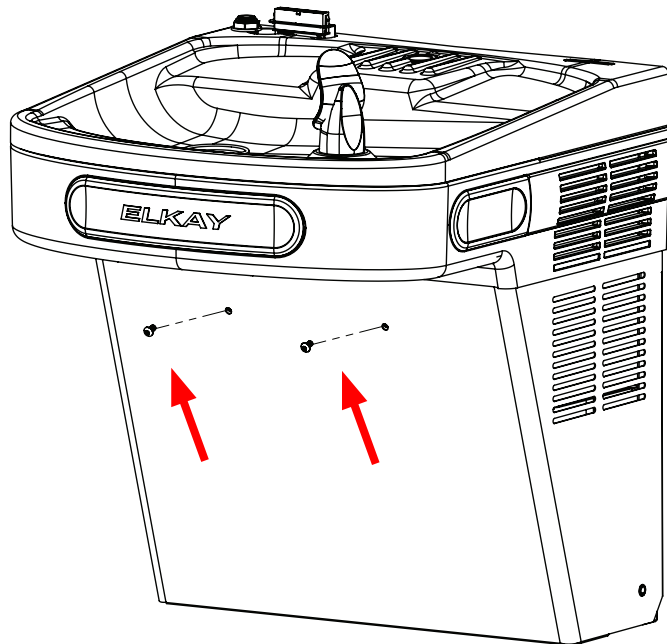

Fig. 7
- 4) Remove the two front screws holding the lower front panel at the bottom of the cooler (see Fig 7, Pg. 6). Rotate the front panel down (see Fig B, Pg. 3) and remove.
- 1) Remove the (2) screws (see Fig 7, Pg. 6) and rotate the front panel down (see Fig B, Pg. 3).
- 1) Remove lower cover on refrigerated unit by removing (2) screws (see Fig 7, Pg. 5) and rotating the front panel down (see Fig B, Pg. 3).